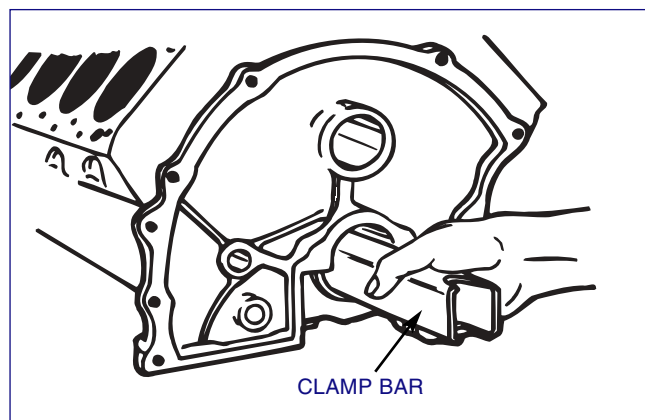

FIGURE 3-23, Clamp Bar
2. Place clamp bar through main bearing bores (*see Figure 3-23*).